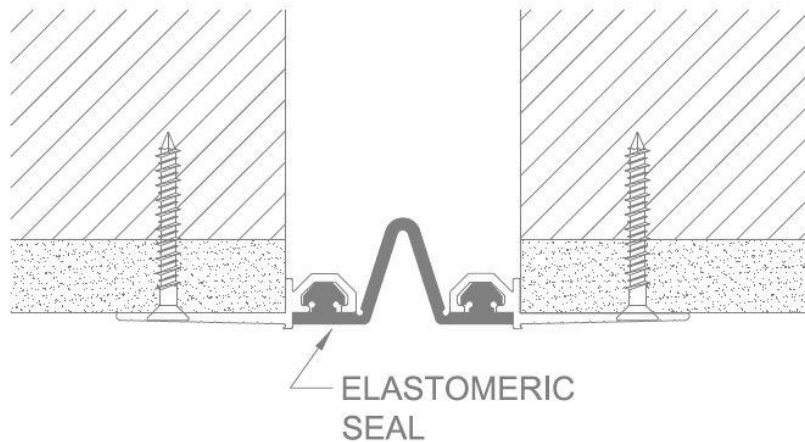

FIGURE 2
2. Position the elastomeric seal into position and push the seal bulbs into the extrusion channels as shown. Make sure the bulbs are seated all the way into the channel. Do not stretch the seal lengthwise during installation. **See Figure 2.**